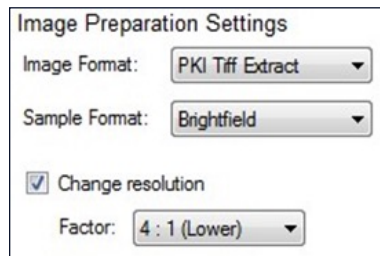

Figure 4.20. Prepare Images downsample.
2. It is often beneficial to downsample the imagery. This makes the classification much faster and for 10x scans it can improve the results as well. Within the Prepare Images step, start with a downsampling of 4:1. If the classifier is not performing well, reduce the downsampling to 2:1. (See Figure 4.20.)